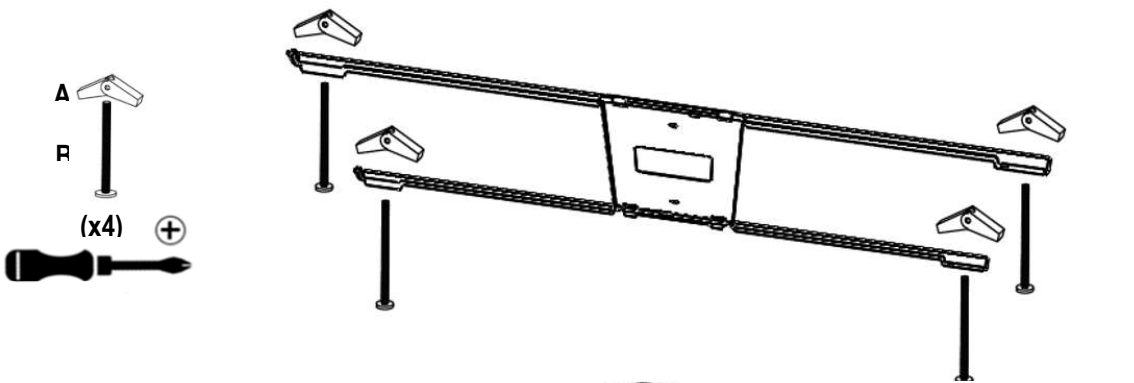

Figure 5A
- Bolts go through holes on each end of hanger brackets, and then threaded into toggle nuts, see Figure 5A.